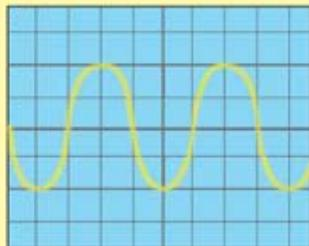

Figure 6.23
15. Turn on the time-base knob. Observe and record the trace displayed on the screen as shown in Figure 6.23.